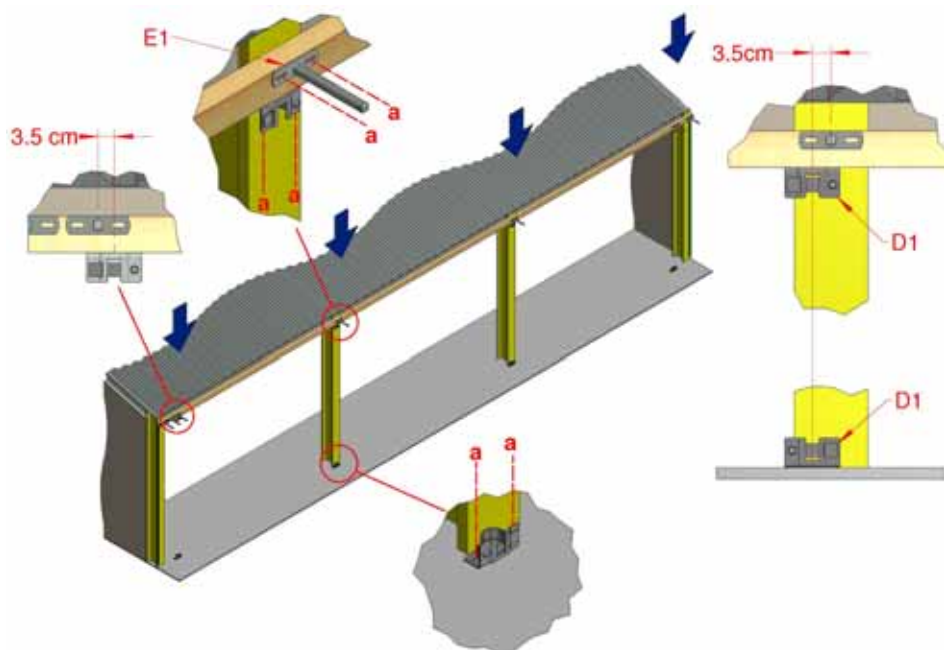

Figure 5a, Intermediate Control Tube Bracket Installation (Face-End)
2.3 Fit the upper Face Brackets (E1) at each intermediate bay upright as shown in Figure 5a. The top edge of these brackets must be aligned horizontally with the end Face Brackets at the ends of the installation.
2.4 At each intermediate bay upright fit the upper End Supports (D1) to the underside of the wooden beam so that the Supports have a 3.5cm offset from the middle of the upper Face Bracket as shown in Figure 5a for Face-End and Figure 5b for Face-Face configuration.